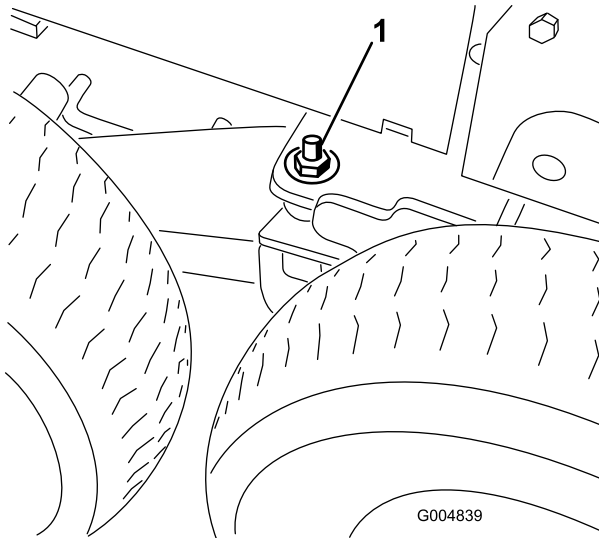

Figure 46
17. Remove the flat washer (1/2 inch) and nut (1/2 inch) installed on the stud on the bogie pivot (Figure 46).
23. Lower the floor jack until the front wheels support the frame. Install the flat washers (1/2 inch) and locknuts on the bogie pivot stud (Figure 46) and torque to 75 ft-lb (102 N·m).